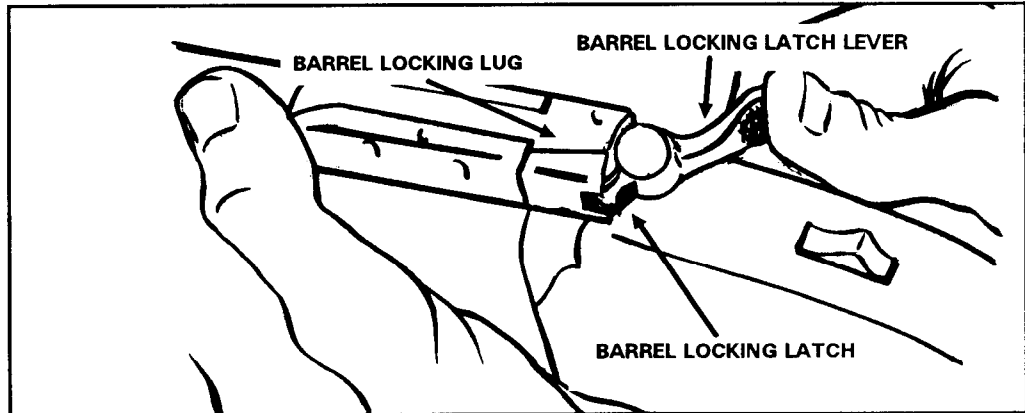

Figure A-7. Operating the barrel locking latch.
e. **Barrel Locking Latch and Lever.** Figure A-7 shows the barrel locking latch on top of the receiver. This latch locks the barrel to the receiver together. To open (break) the breech end of the barrel, press the latch lever all the way to the right.